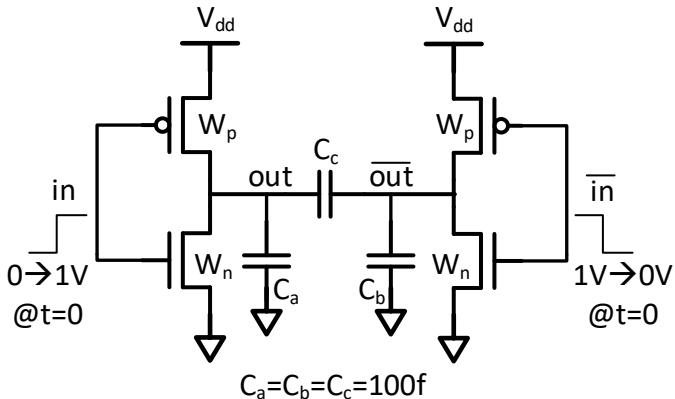

Figure 1a
- a. For the circuit in Fig. 1a what is the delay associated with a step transition (one rising and one falling) as shown in the figure. Assume that output resistance of the inverters is $1k\Omega$